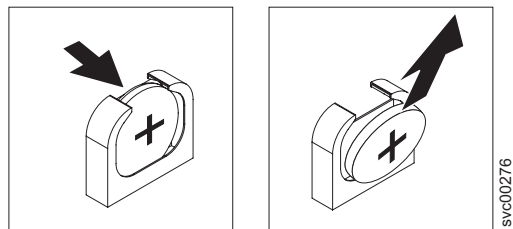

Figure 133. SAN Volume Controller 2145-8G4 CMOS battery holder
4. Remove the CMOS battery, as shown in Figure 133: